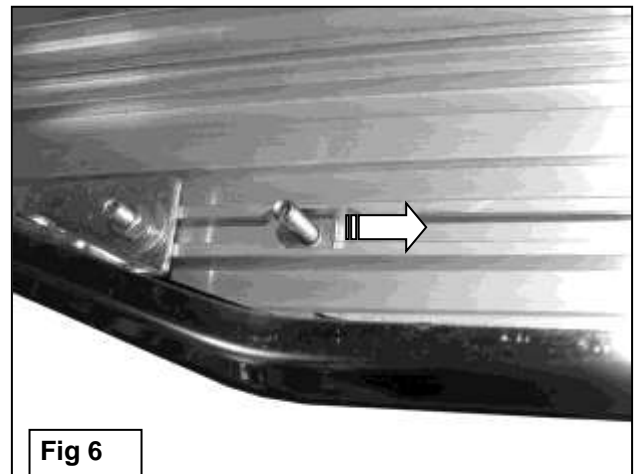

Fig 6
5. Select the Driver Side Running Board. Insert (3) 6mm T-Bolts into each slot and slide them down the channel in the bottom of the Board and into approximate position in line with the Brackets, **(Figure 6)**.